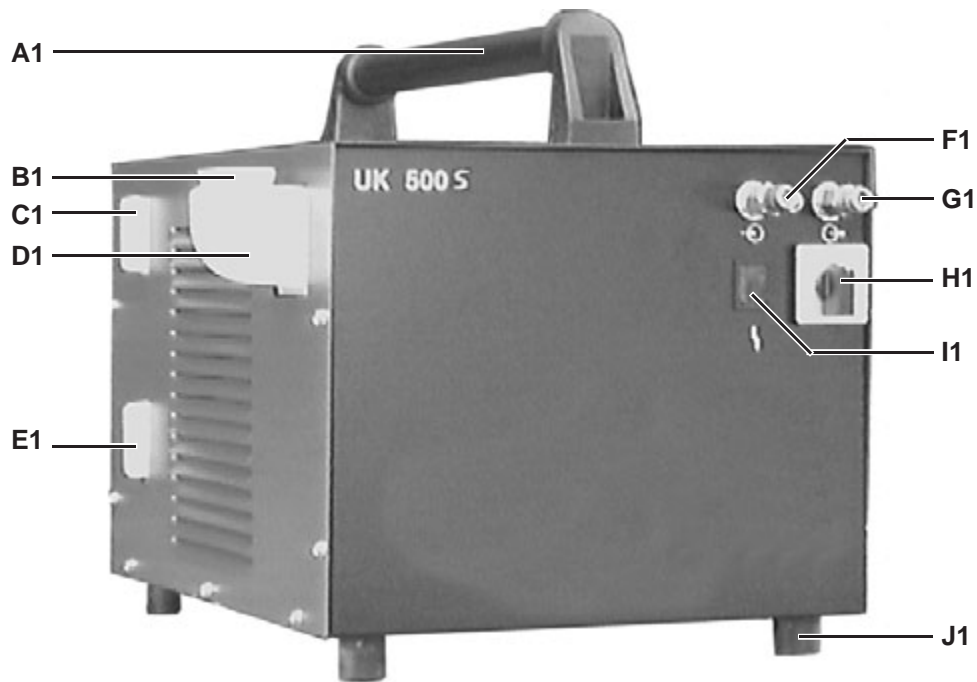

Fig.: 1 Front view:
- e.g. **(C1)** means: Item C / Figure 1 in the respective Section
- e.g. **(Sect. 3, C1)** means: in Section 3 Item C / Figure 1